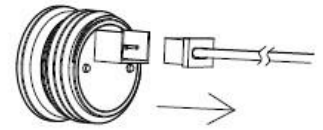

Fig:2
- Disconnecting the male and female connectors will deactivate the photocell function (Fig:2).